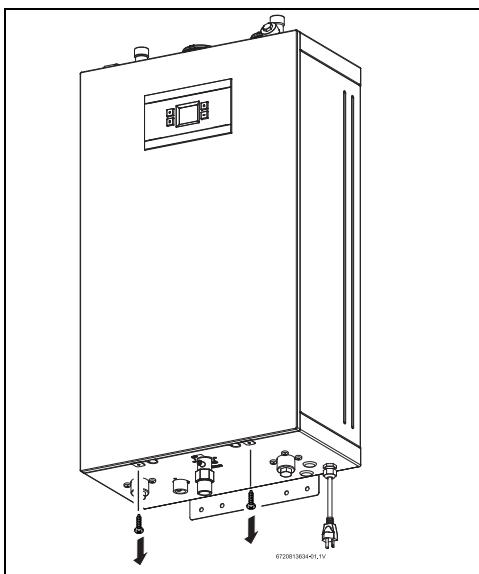

Fig. 3 Loosen two Phillips head screws
- ▶ Loosen two Phillips head screws located on the bottom of the unit (fig. 3).